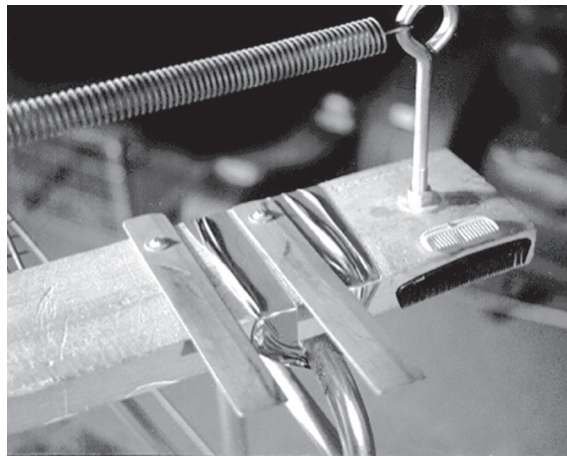
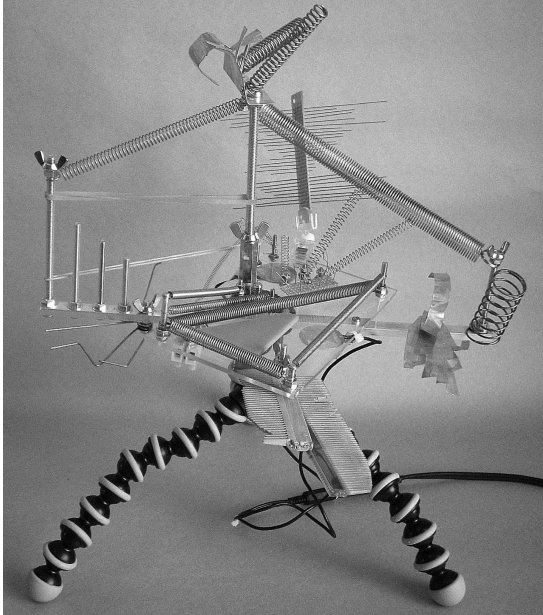

Figure 7.9
Figure 7.10
section of the Gallery on the website). Eric Leonardson (US) performs regularly on his Springboard—a plank of wood festooned with springs, wires, and other bits of scrap metal that, when heard through the piezo pickup, evoke the sound world of a Balinese gamelan (see Figure 7.9 and his video in “Contact Microphones & Electret Microphones”).³ ADACHI Tomomi’s Tomoring takes a different design angle on amplifying springs, rubber bands, and combs (see Figure 7.10 and his video in “Contact Microphones & Electret Microphones”), and Ivan Palacky (Czech Republic) creates similar textures by adding contact mikes to a 1970s-era knitting machine (see Figure 7.11 and his video in “Contact Microphones & Electret Microphones”).